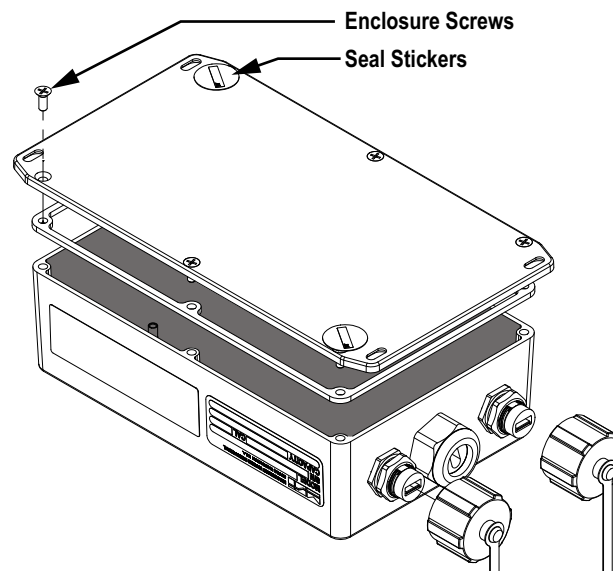

Figure 4-1. Enclosure Screw Locations
3. Replace enclosure screws (Figure 4-1 on page 45) with a philips head screwdriver.